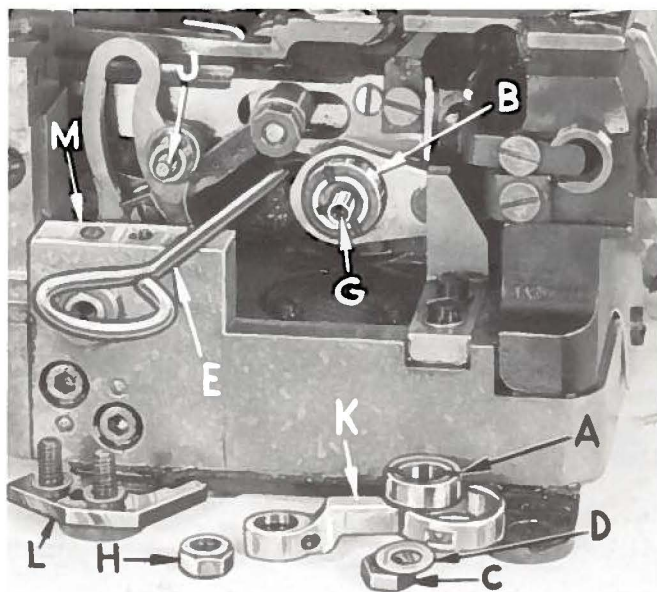

Fig. 14
Length of stitch is determined by the combination of feed eccentrics used. Outer (left) eccentric (A, Fig. 14) actuates differential (front) feed dog; while the inner (right) eccentric (B) actuates the main (rear) feed dog.